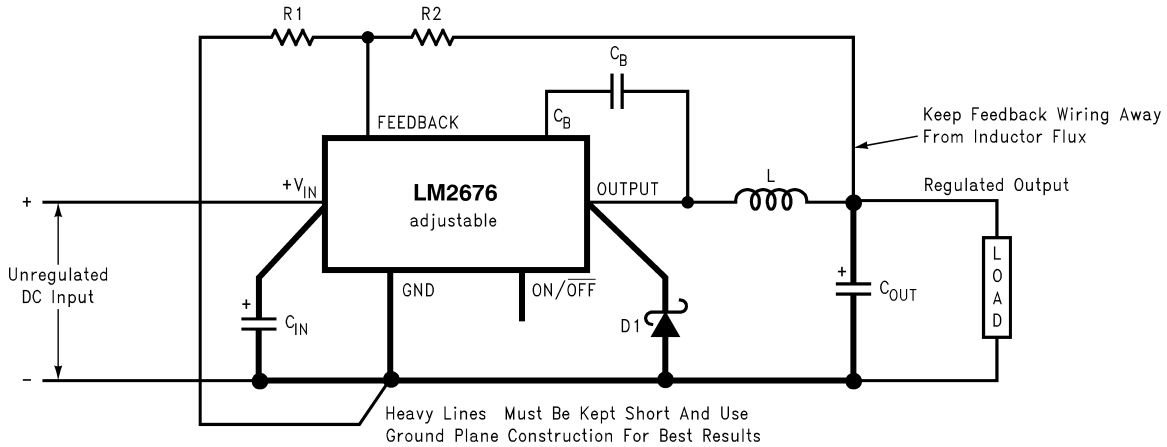

图 8-7. Basic Circuit for Adjustable Output Voltage Applications
**Step 2:** Select an LM2676S-ADJ. To set the output voltage to 14.9 V, two resistors must be chosen ( $R_1$  and  $R_2$  in 图 8-7). For the adjustable device, the output voltage is set by the following relationship: